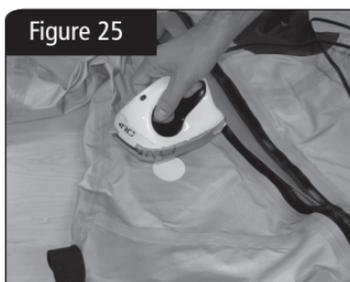

Figure 25
9. Place hot iron on patch and apply pressure perpendicular to the flat surface for approximately 20 – 25 seconds. See Figures 25–26.